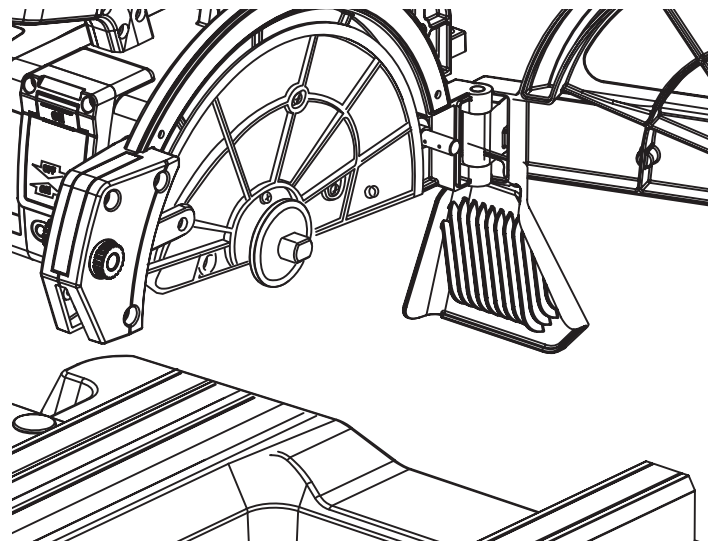

Fig. 23
3. Remove the motor-shaft nut and the outer flange. Leave the inner flange on the blade shaft (Fig. 23).